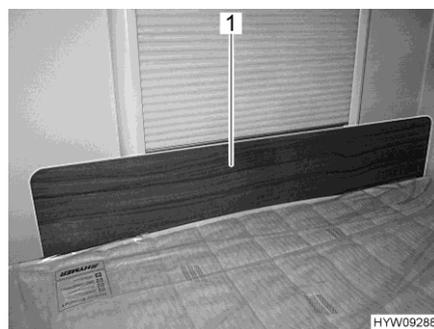

Fig. 86 Protective panel / fall out protection
- Plug in the protective panel (Fig. 86,1) in front of the window, between mattress and window frame. The clamping effect of the mattress holds the protective panel in its position in front of the window frame.